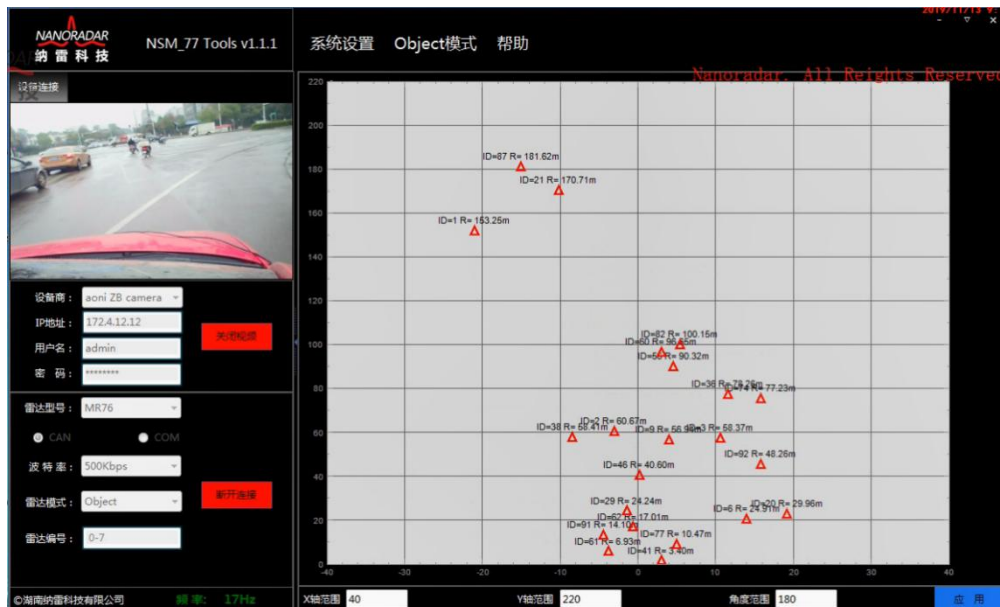

Fig 8 Radar host computer test interface
- 1) USB2CAN adapter connect PC computer and open host computer software, firstly configure parameter shown as fig 8. red parts are MR76S test configured parameters, blue part is the adjusted coordinate range according to test distance. Then click the right side connect equipment button.
- 2) Start test. MR76S radar antenna surface face to motion target, or sensor and object existing relative tiny motion, able to check UI interface will occur target indicated red delta, and indicate the target distance R. Shown as fig 8, if not occur red delta indication then means not occur target in detect distance and visual field.